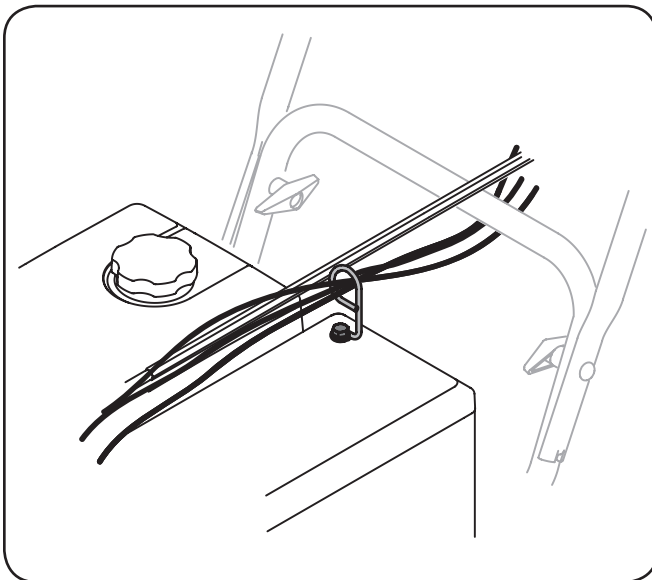

Figure 3-9
9. Check that all cables are properly routed through the cable guide on top of the engine. See Fig. 3-9.